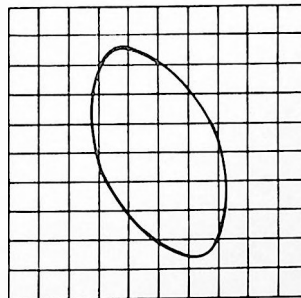

FIG. 2
- h. Allow the tape to run to the 5 kHz section and observe if phase shift has occurred. (Refer to Figures 2 through 4.) If phase shift has occurred, adjust the azimuth screw A to correct this phase shift in the exact reverse rotation to which it has occurred. (This means